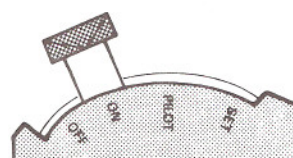

FIGURE 4
- Move selector arm to the "on" position, (see figure 4), and set room thermostat to desired temperature. Allow burner to cycle on and off.